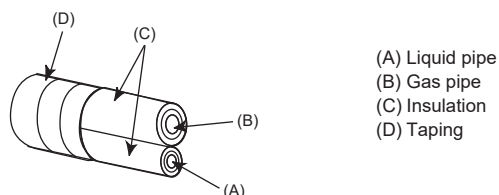
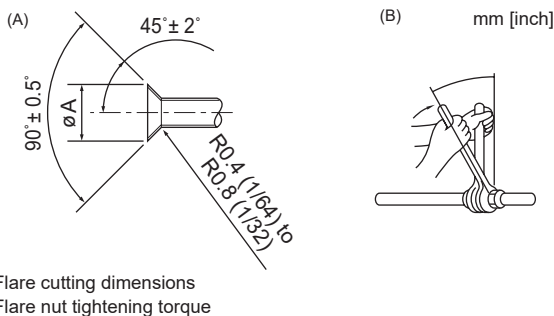

Fig. 4-1
Fig. 4-2
(A) (Fig. 4-1)
(B) (Fig. 4-1)
### 4.2. Connecting pipes (Fig. 4-1, Fig. 4-2)
When commercially available copper pipes are used, insulate both the liquid and gas pipes separately with commercially available insulation materials (heat-resistant to 100°C, 212°F or more, thickness of 12 mm, 1/2 inch or more). (Fig. 4-1)
- The indoor parts of the drain pipe should be wrapped with polyethylene foam insulation materials (specific gravity of 0.03, thickness of 9 mm, 23/64 inch or more). [Fig. 4-2]
- Apply thin layer of refrigerant oil to pipe and joint seating surface before tightening flare nut. (A)
- Use two wrenches to tighten piping connections. (B)
- Apply refrigerating machine oil over the entire flare seat surface. (C)
- Use the flare nuts for the following pipe size. (D)